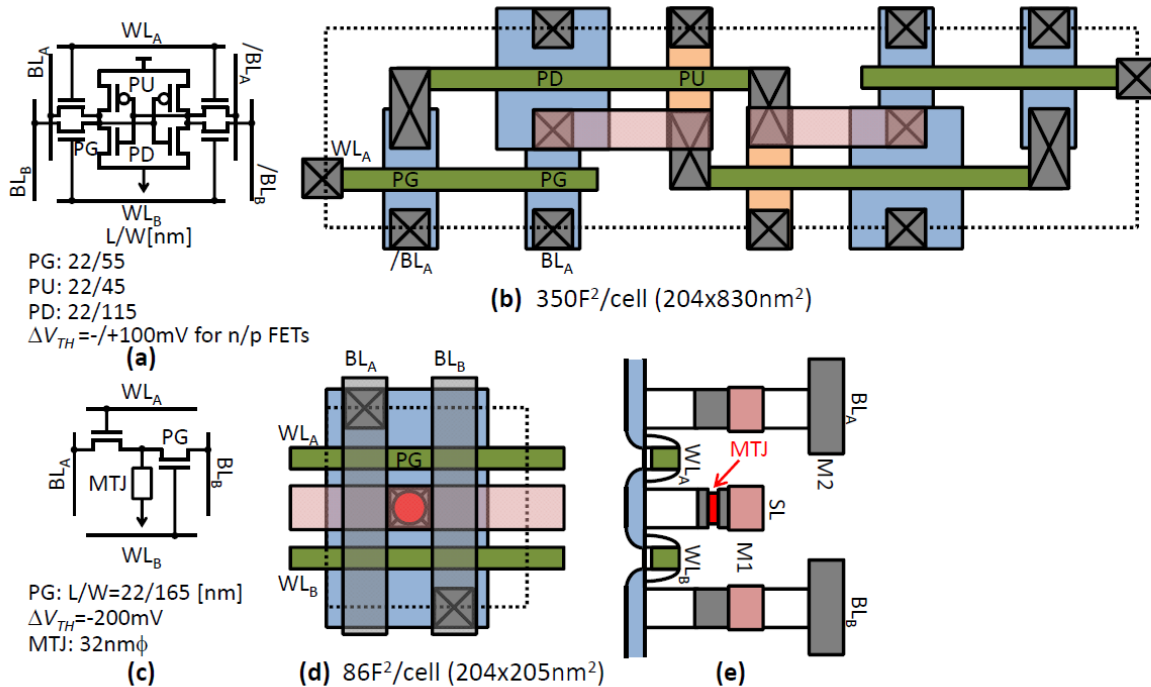

Figure 1: SRAM and MTJ cells: (a) Dual-port 8T SRAM cell and (b) its layout. (c) Dual-port 2T-1R MTJ cell, (d) its layout and (e) cross-section [2].
- h. Future FPGAs may use emerging non-volatile memory technologies such as Magnetic Tunneling Junctions (MTJs) as a replacement for SRAM cells [2,3]. A MTJ is much more compact than SRAM and may offer a significant area advantage in large memory arrays. As shown in Figure 1, a single MTJ cell contains only two transistors instead of the 8 in a dual port SRAM cell, and is about 4 times smaller than its SRAM counterpart. Change your area model (as described in the Area Model section of the Detailed Specification that follows) to model an MTJ-based BRAM and repeat the experiment in part g.